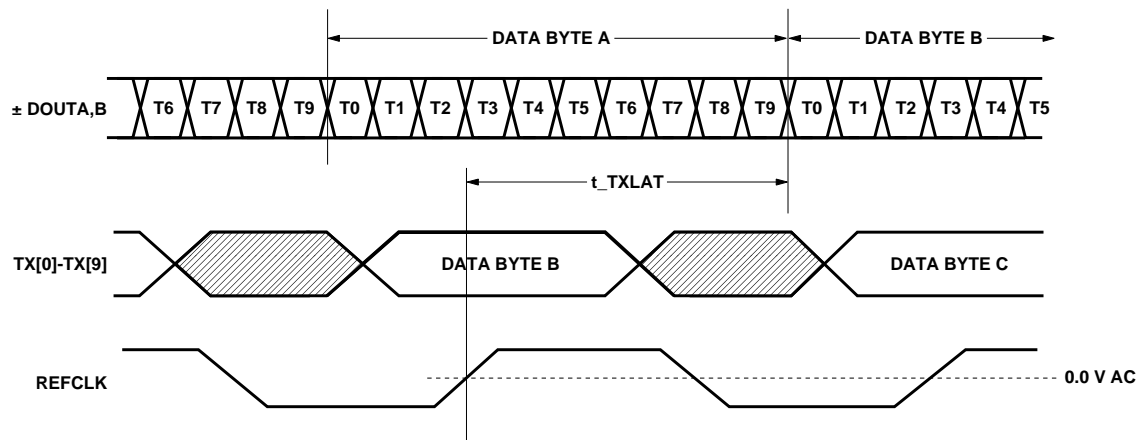

Figure 4: Transmitter Latency.
1. The transmitter latency, as shown in Figure 4, is defined as the time between the latching in of the parallel data word (as triggered by the rising edge of the transmit byte clock, REFCLK) and the transmission of the first serial bit of that parallel word at either output pair (defined by the rising edge of the first bit transmitted).